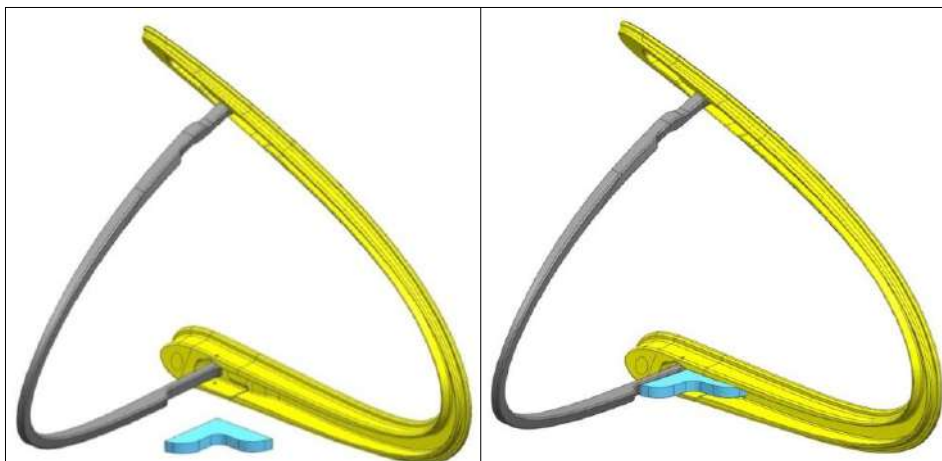

Figure 57-3: Bug wiper angle tool inserted
3. Open the bug wiper and insert the bug wiper angle tool between the blade and the leg at the bottom hinge (Figure 57-3). The angle tool is set for an angle of 70°.